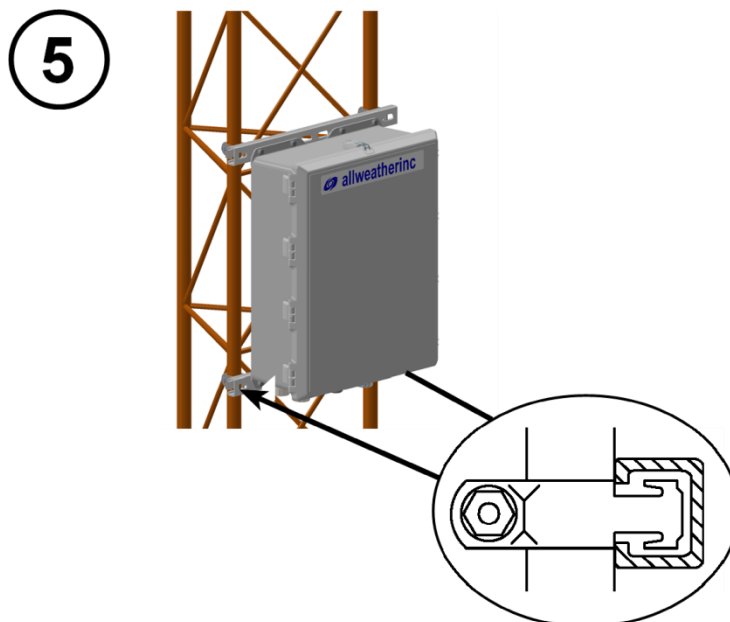

Figure 6. Secure Bottom Unistrut to Tower Leg
- Secure the lower Unistrut to the tower legs using the mounting hardware provided (Figure 6).